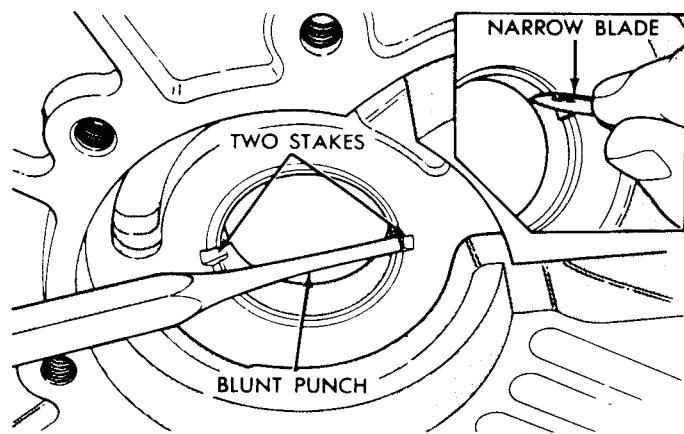

Fig. 10—Stake Pump Bushing
(1) Place pump housing (seal face down) on a smooth, firm surface.
(2) Place removing head, Tool SP-3551 in bushing and install handle Tool C-4171 in the removing head (Fig. 10).
(3) Drive bushing straight down and out of pump housing bore. Be careful not to cock tool in the bore.
(4) Position new bushing on installing head Tool SP-5117.
(5) With pump housing on a smooth, clean surface, start bushing and installing head in the bushing bore. Install handle in the installing head (Fig. 10).
(6) Drive bushing into housing until tool bottoms in the pump cavity. Be careful not to cock tool during installation.
(7) Stake bushing in place by using a blunt punch or similar tool (Fig. 10). A gentle tap at each stake slot location will suffice.
(8) Using a narrow-bladed knife or similar tool, remove high points or burrs around staked area
(Fig. 10). Do not use a file or similar tool that will remove more metal than is necessary.